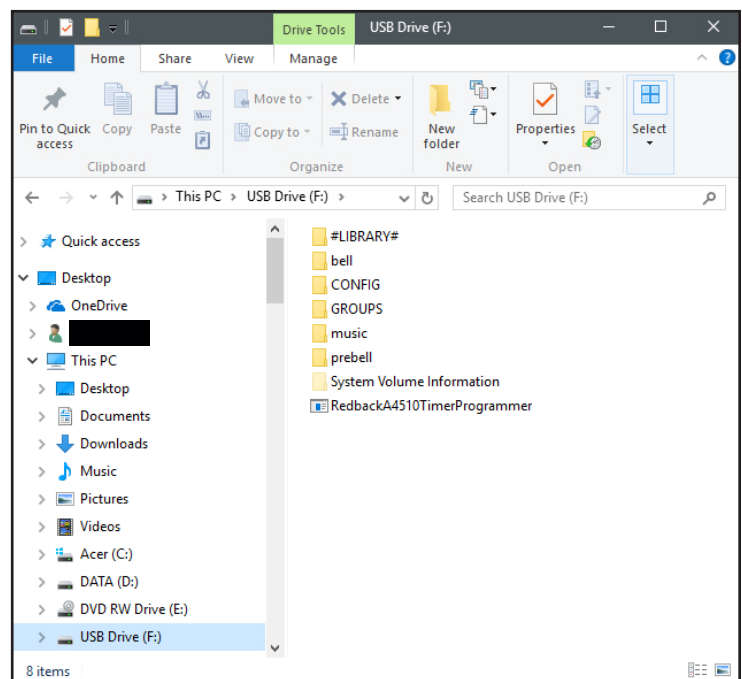

Fig 2.1
**Step 2:** Go to "My Computer" or "This PC" and open the SD card which is usually marked "Removable disk". In this case it is named "Removable disk (F:)". Select the removable disk and then you should get a window like that shown in figure 2.1.